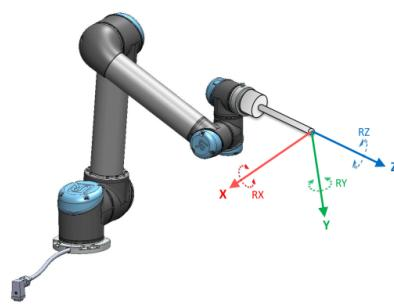

Figure 13.2: Tool (TCP) feature
- *Tool feature*: located with origin in the centre of the current TCP (see figure 13.2)